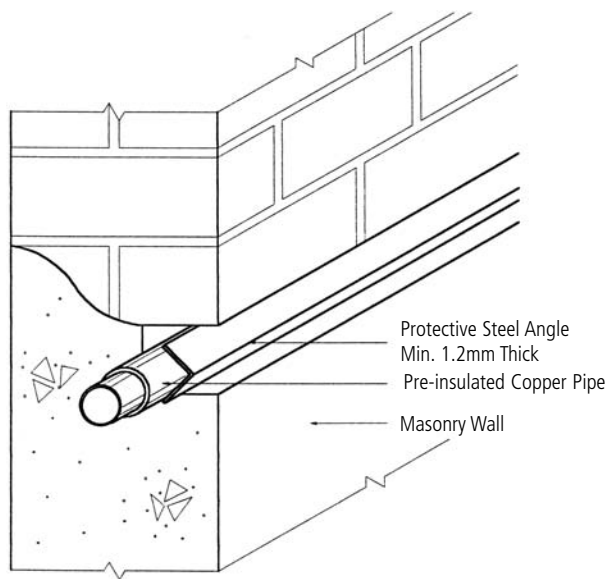

FIG. 6 PIPE EMBEDDED IN SOLID WALL
- 4.4.4 Entire pipework section shall be adequately protected from corrosion by sheathing in a water tight coating using factory applied polyethylene coated pipe and/or the use of petrolatum impregnated protective tapes.(Fig. 6)
- 4.4.5 A protective steel angle/plate no thinner than 1.2 mm shall be fitted along that entire length of the concealed pipe as per Fig. 6. A sizing table and detailed cross sectional elevation are shown in Appendix C.